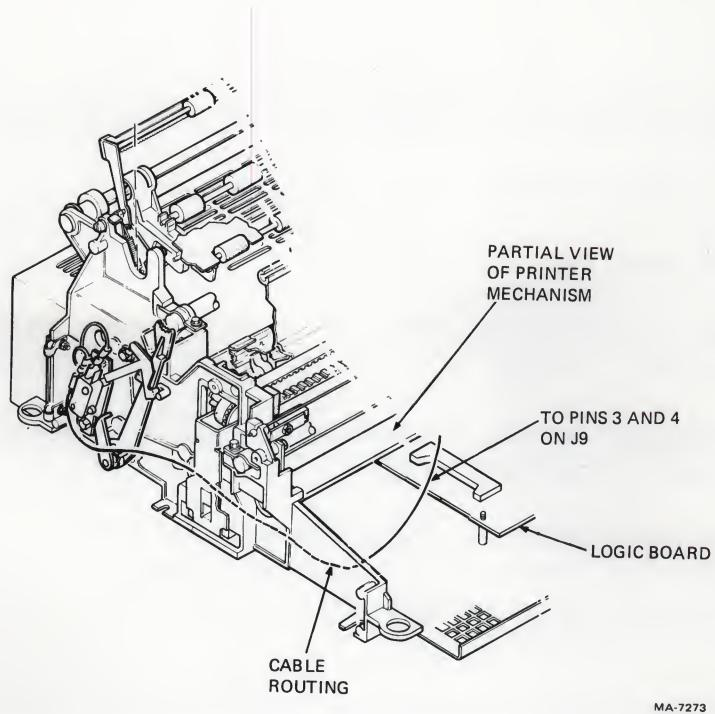

Figure 8-14 Paper Out Switch Cable Routing
16. Connect the paper out cables to the microswitch and route the cables under the printer mechanism (Figure 8-14). Connect the cables to pins 3 and 4 of J9 on the logic board.